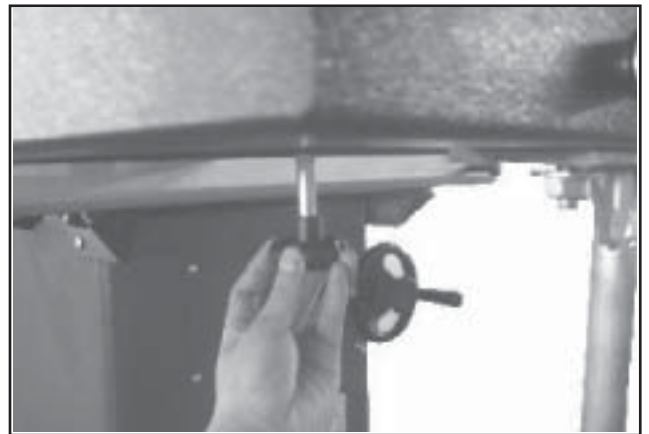

Figure 15
3. Install the miter fence locking knob from the underneath of the sliding table carriage. Figure 15.